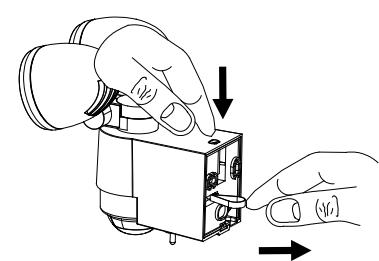

Fig. 2
- Press the release button on the top side (Fig. 2) and open the cover by pulling the tab on the wall bracket